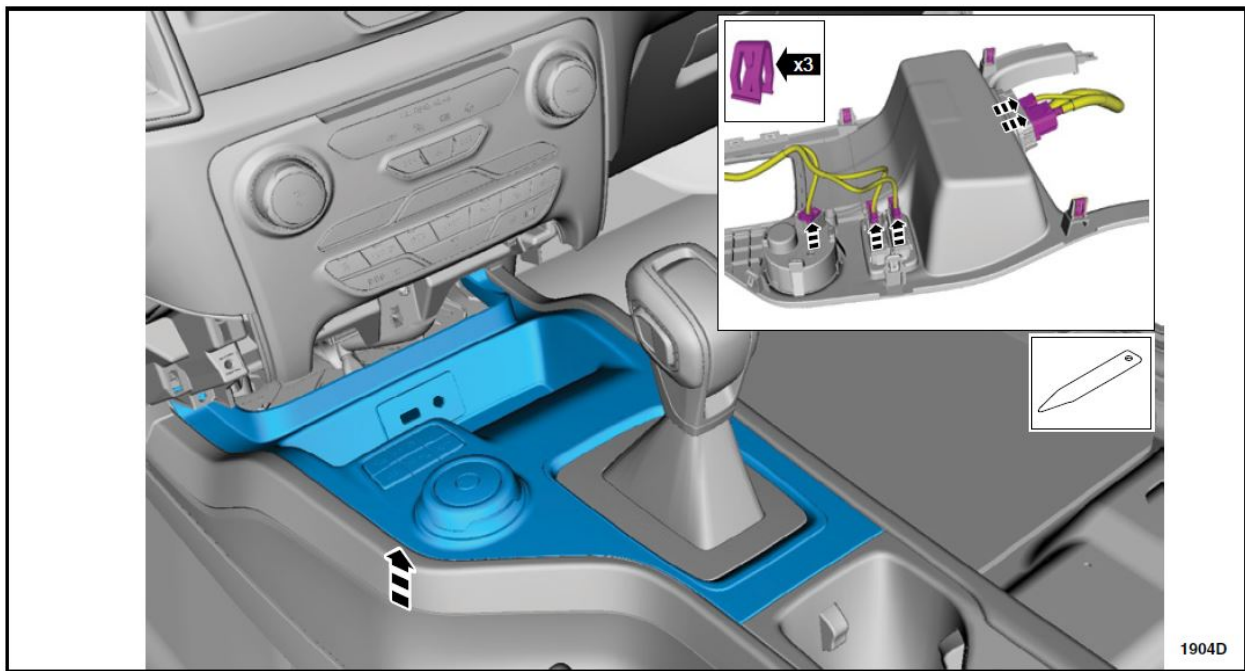

FIGURE 5
5. Using a plastic trim tool, release the retainers, disconnect the electrical connectors and remove the floor console upper trim panel. See Figure 5.